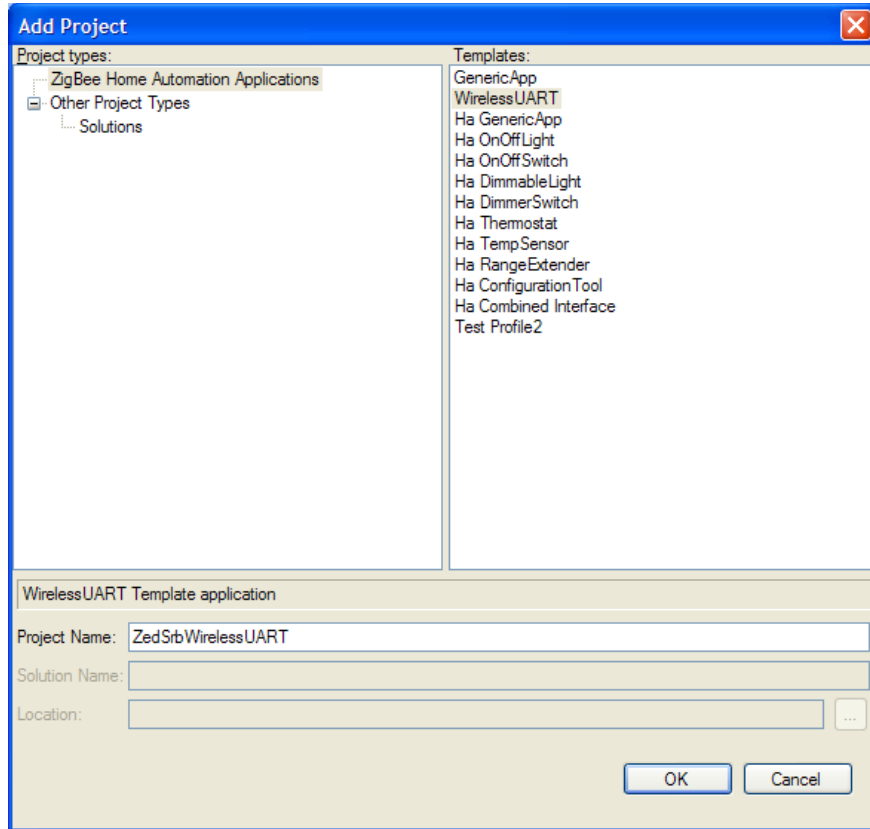

Figure 5-11. Add New Project Page
1. From the BeeKit main window, select Solutions -> Add Project. The Add Project window appears as shown in Figure 5-11.
2. Select “WirelessUART” and name the project WirelessUART_EndPoint as shown in Figure 5-11.